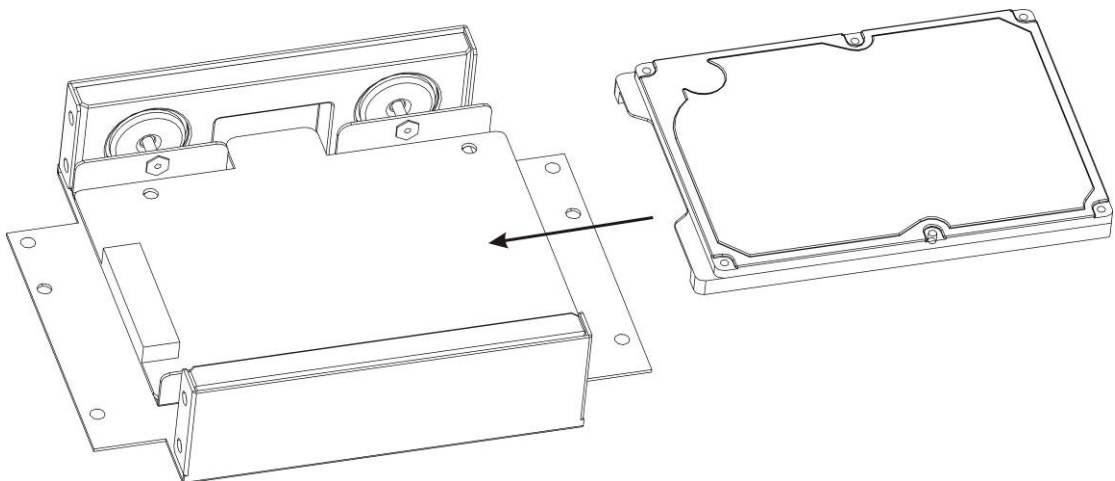

Figure 3-3
3) Now you can see an interface is shown as below after you removed the bracket. Remove the four bolts from the HDD. Follow the direction arrow in Figure 3-3 to install the HDD and secure the bolts.